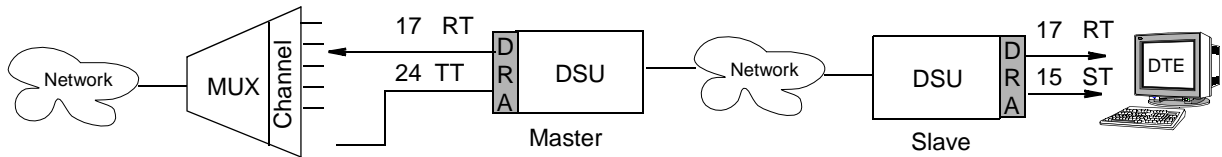

Figure A-4 Master: External, Slave: Internal
- 5) *When operating the Data Rate Adapter in an external synchronous point-to-point mode, refer to Figure A-4. The unit with external timing must be optioned as a multipoint master. The internal timing unit is optioned as a multipoint slave.*
Note Figure A-4 is applicable for synchronous point-to-point operation with external timing.